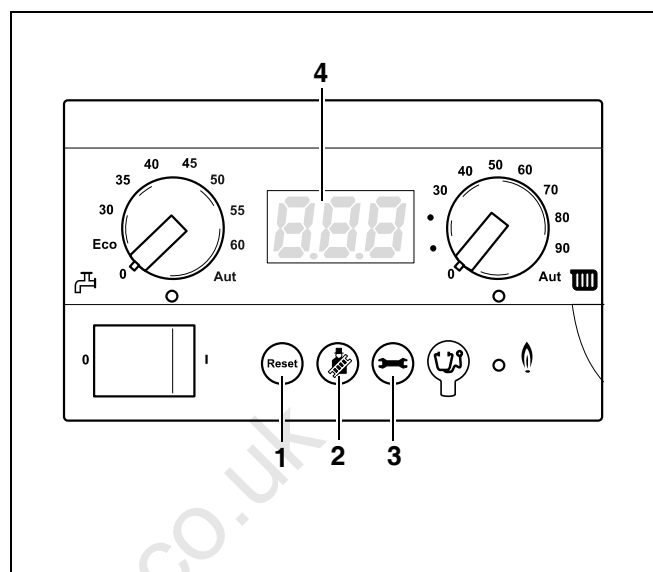

fig. 19 BC10 basic controller
You can navigate through the menu structure of the central boiler on the BC10 using the "Reset" button, the "Chimney sweep" button, the "Service button" (fig. 19, items 1, 2 and 3) and the display (fig. 19, item 4) in accordance with the menus in tables 5, 6 and 7.